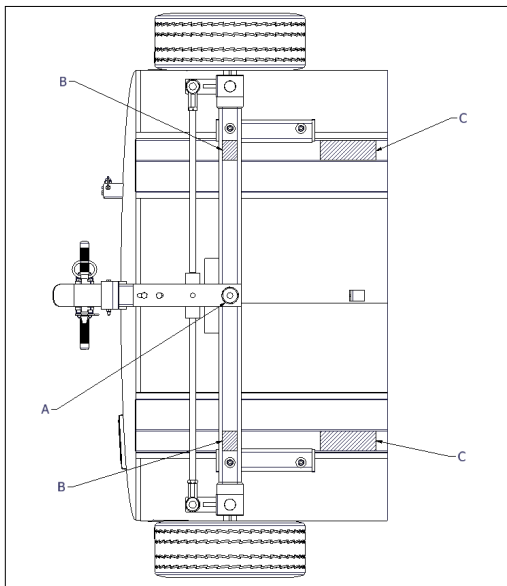

Figure 4-23 Lift Points
- a. Raise equipment with suitable maintenance jack (see Figure 4-23, arrow A for jack placement) and allow for 2-inches of space between the wheels and the ground.
- b. Place cribbing under tank skids to safely support the equipment. (see Figure 4-23, reference points labeled with a C)